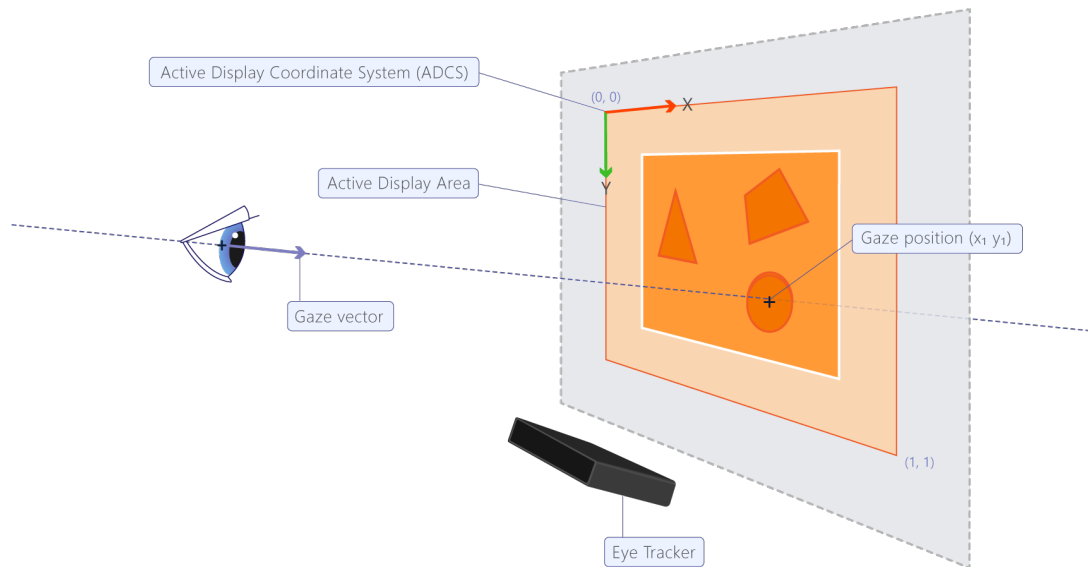

Figure 4.1: The Active Display Coordinate System (ADCS). Figure source: Tobii
A gaze point describes a point on the screen in x and y coordinates (pixel values) the user is gazing at. This coordinate system is called *Active Display Coordinate System (ADCS)* and is illustrated in Figure 4.1.
3. 2D gaze point ADCS coordinates (see Figure 4.1) as normalized values
1. calibration point ADCS coordinates (see Figure 4.1) as normalized values
2. gaze point ADCS coordinates (see Figure 4.1) as normalized values